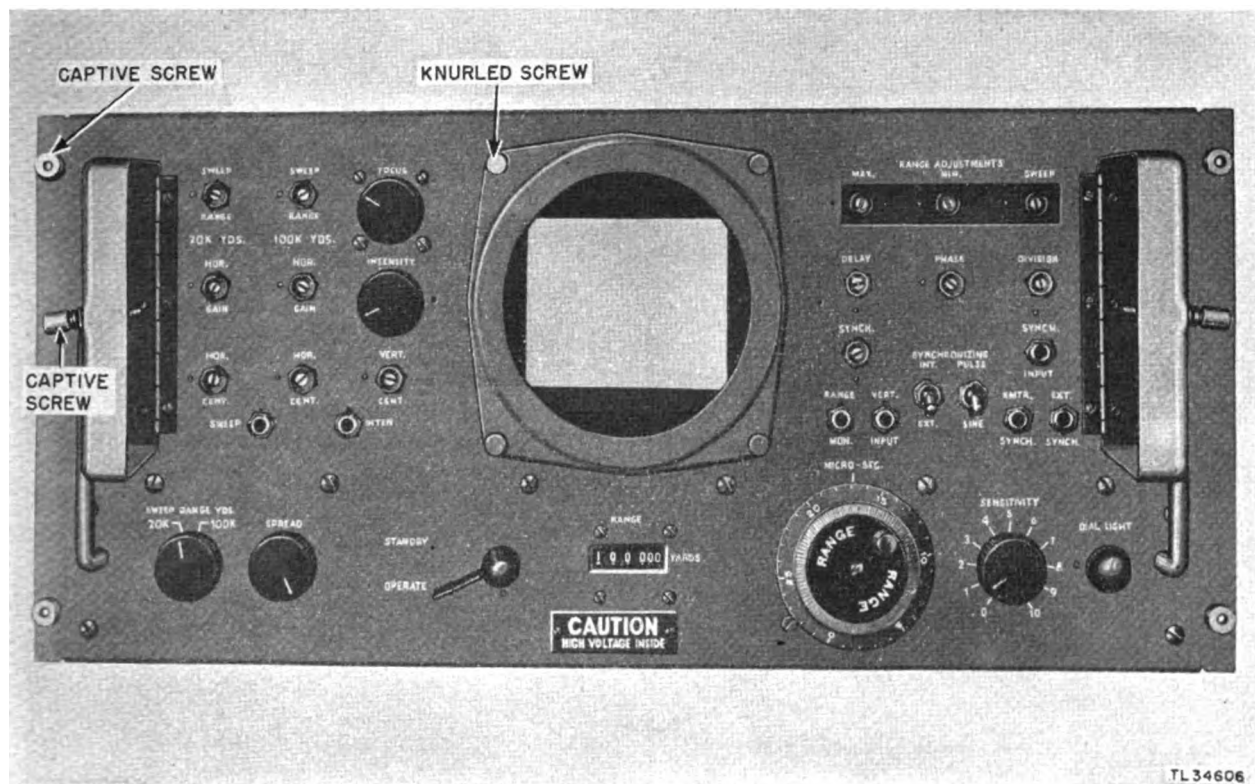

Figure 11. Control unit—front panel.
a. LOCATION (fig. 11).
(1) The plastic crystal faces of the scope for cleanliness. Remove front cover of scope by loosening the knurled knobs.
(2) The setscrews of the potentiometers and switch knobs for tightness.
(3) The locknuts of the adjustment potentiometer for tightness.
(4) The control panels and hinges for cleanliness. Open the panels and make sure the hinges move freely.
(5) The STANDBY OPERATE and SWEEP RANGE switches and all potentiometers with knobs for mechanical operation and tightness of locknut.